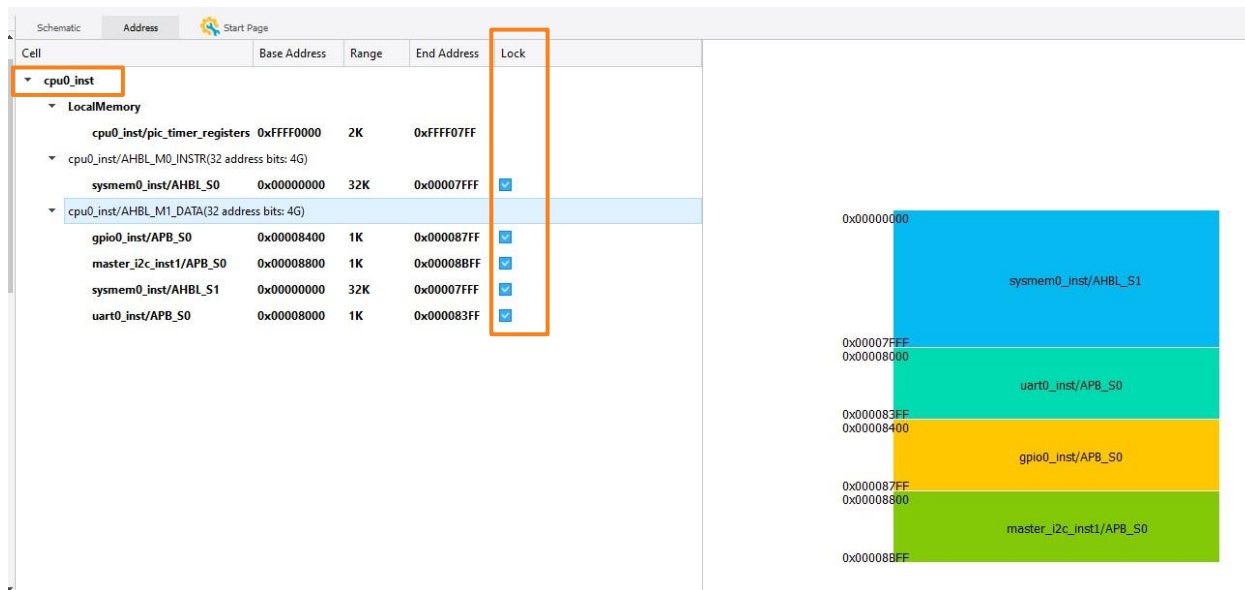

Figure 3.24. Propel Builder – Memory Map
2. Click to expand the memory display and to show where the peripherals are mapped as shown in Figure 3.24.